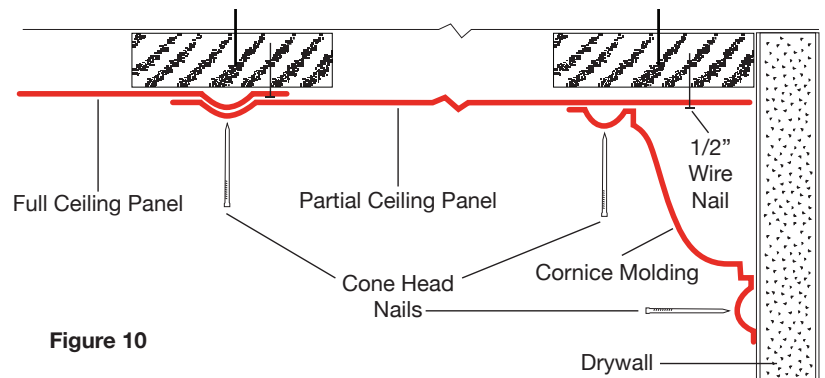

Figure 10
- Figure 10 shows the relationship of the crown molding, tin panels, furring strips, and nails.